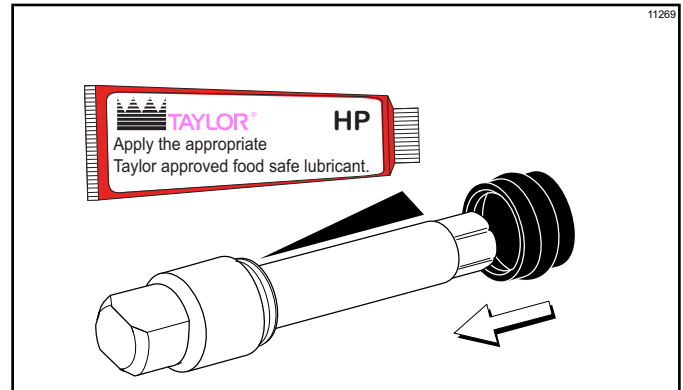

Figure 6-1
4. Apply an even coat of lubricant to the shaft. **Do not** lubricate the hex end. (See Figure 6-1.)